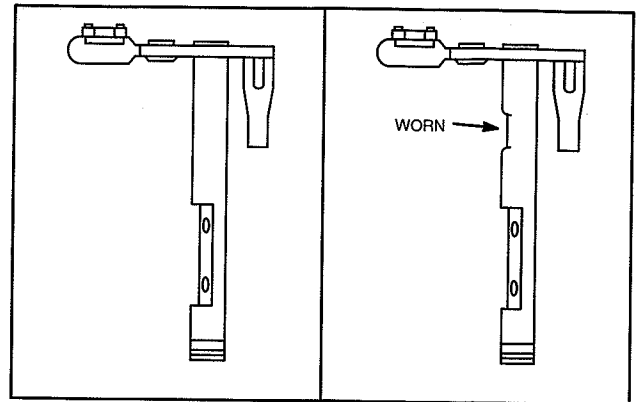

Fig. 51 – Check Throttle And Choke Shaft
2. Inspect throttle shaft and choke shaft for wear. Replace if worn, Fig. 51.